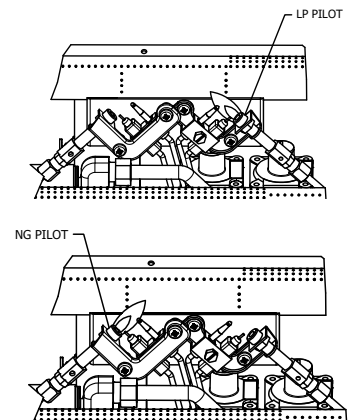
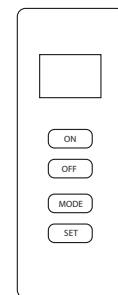

Fig. 18 - Pilot
Fig.19 - Remote
6. With control knob depressed, push down on the ignitor button until the pilot lights. The pilot is located behind the fireplace screen, centered near the rear of the burner (See Fig. 18).
7. Keep control knob depressed for (30) seconds after pilot lights. Release control knob.
- If pilot goes out repeat steps 3 through 7. Wait (1) minute before attempting to light pilot again. If after several tries the pilot still goes out, turn the gas control knob clockwise ↻ to the “OFF” position and call a qualified service technician.
9. To use the included thermostatic remote control, set receiver switch to the “REMOTE” position (See Fig. 19). Press the ON button to turn on the remote to ignite the main burner. Refer to the remote control instruction manual on page 29 for “MODE” and “SET” functions.